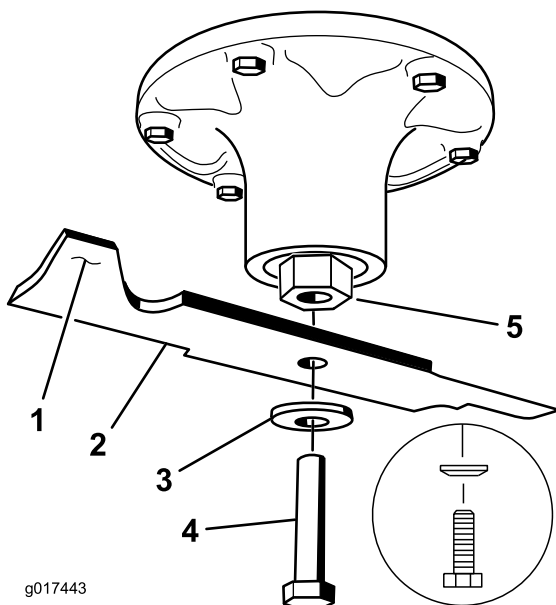

Figure 101
2. Remove the blade bolt, curved washer, and blade from the spindle shaft (Figure 101).
- Install the blade onto the spindle shaft (Figure 101).
- Install the curved washer and blade bolt (Figure 101).